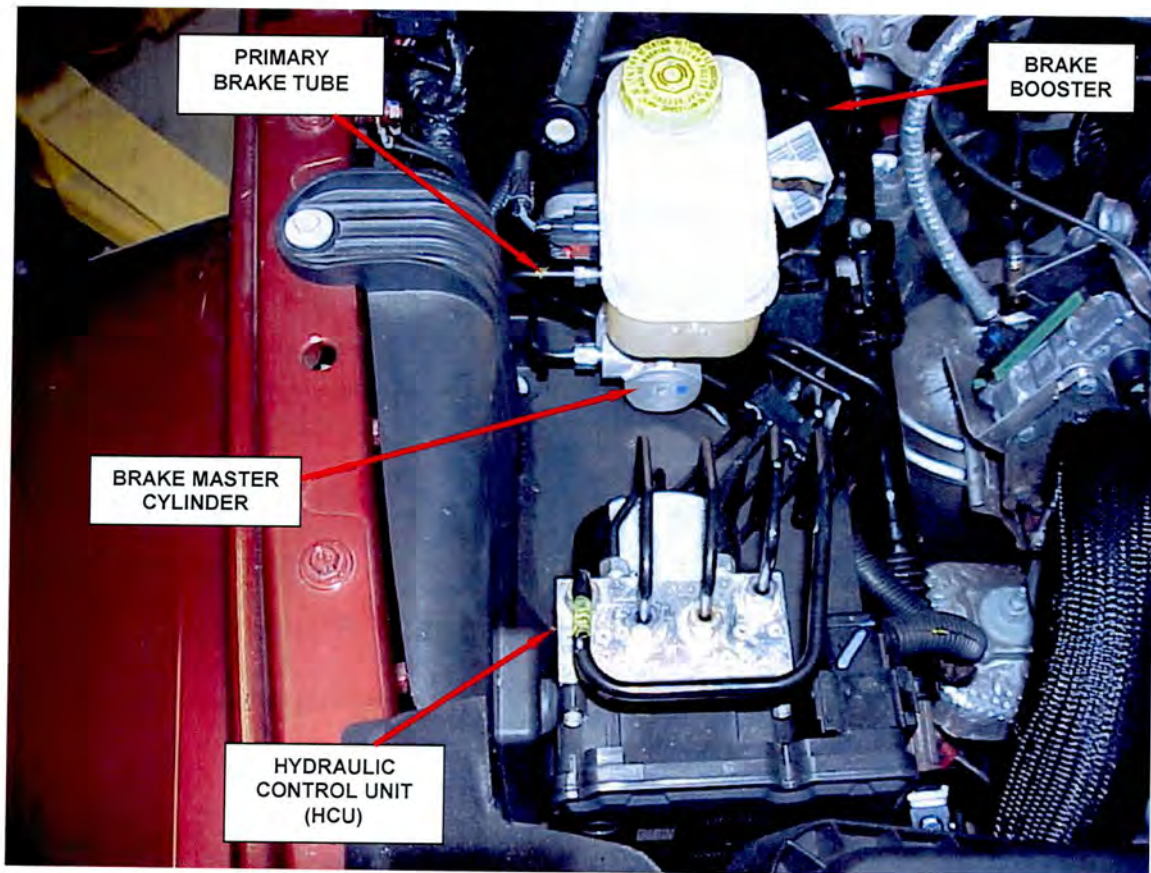

Figure 3 – Component Location
4. Disconnect the primary brake tube at the master cylinder (Figure 3).
5. Disconnect the primary brake tube at the HCU (Figure 3).